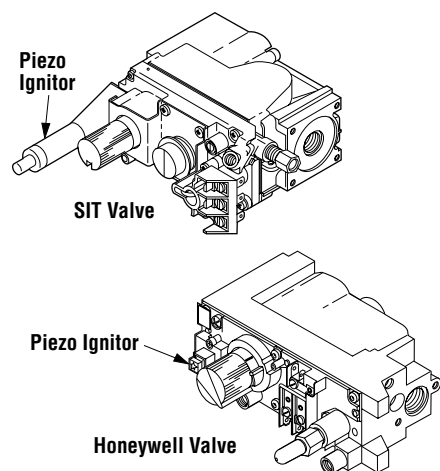

Figure 18
Step 9. Checking the System – With gas line installed run initial system checkout before closing up the front of the unit. Follow the pilot lighting instructions provided in the Homeowner's Care and Operation Instructions. For piezo ignitor location see **Figure 18** (millivolt appliances only).